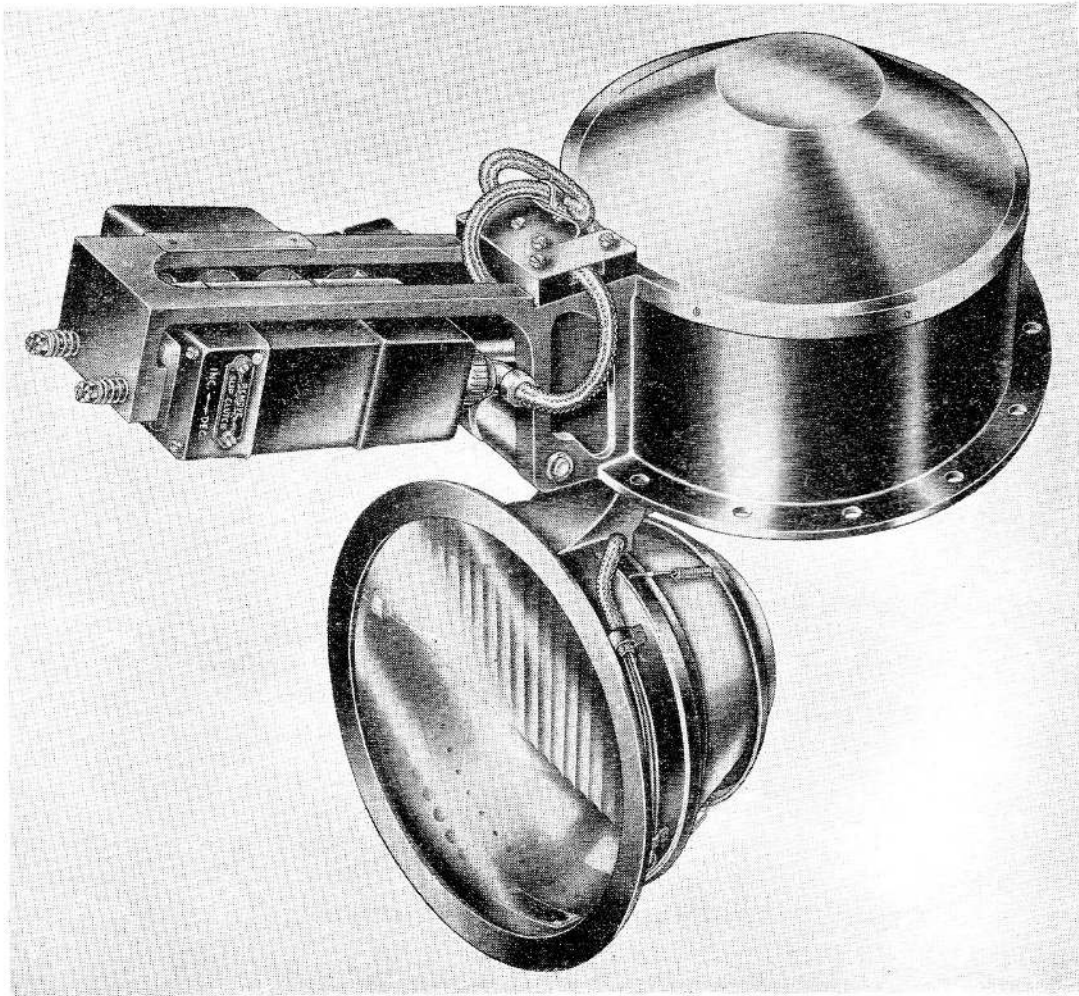

Fig. 1. General view of lamp
4. The lamp (*fig. 1*) is constructed in three major units, namely:—
15. The lamp housing (*fig. 1*) consists of a cylindrical casting into which the lamp case retracts; the top of the casting is covered by a sheet metal pressing forming a lid. An arm, forming part of the casting supports the rear attachment fitting of the actuator. Also mounted upon the arm of the casting are two relays, a cut-out switch, and a terminal block. The relays control the current to the lamp bulb.
**24.** A shoulder, machined around the outside periphery of the lens frame casting, forms a seating over which the reflector is located. The reflector is then retained in position by the cover and the cover retainer (*fig. 1*).